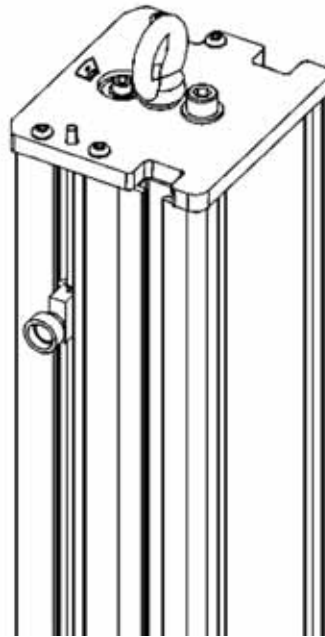

Figure 10. Eyebolt for lifting the frame
7. Insert the crane hook into the eyebolt on top of the frame column Figure 10 on page 52.
For some systems, the eyebolt is removed prior to shipping. If the eyebolt is missing from your machine, it will be packed in an envelope inside one of the unsealed boxes, usually in the box that contains the system documentation. Screw the eyebolt into the top of the frame column as shown in Figure 10 on page 52.